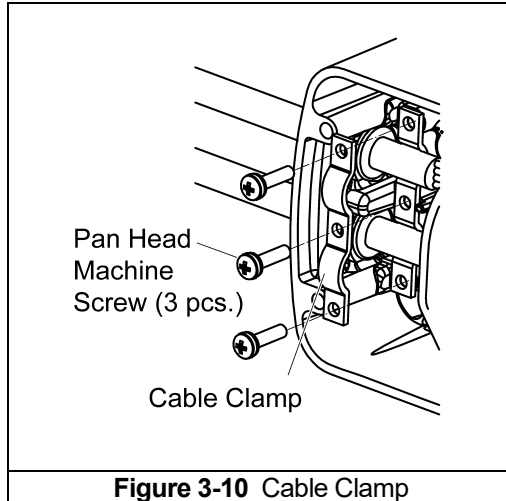

Figure 3-10 Cable Clamp
- Remove the controller cover and the 3 machine screws that hold the Cable Clamp (see **Figure 3-10**).
- Secure the Cable Clamp with the Pan Head Machine Screws (see **Figure 3-10**) and reinstall the controller cover.